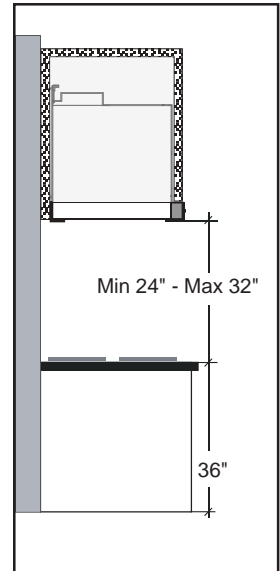

Fig.1
2. Position template B on the wall cabinet, bearing in mind the measurements indicated in Figs 1 and 2 and the minimum distance from the cooktop.
1 - Check the measurements indicated in Figs 1 and 2 and the minimum distance from the cooktop, before installing the hood on the support shelf.